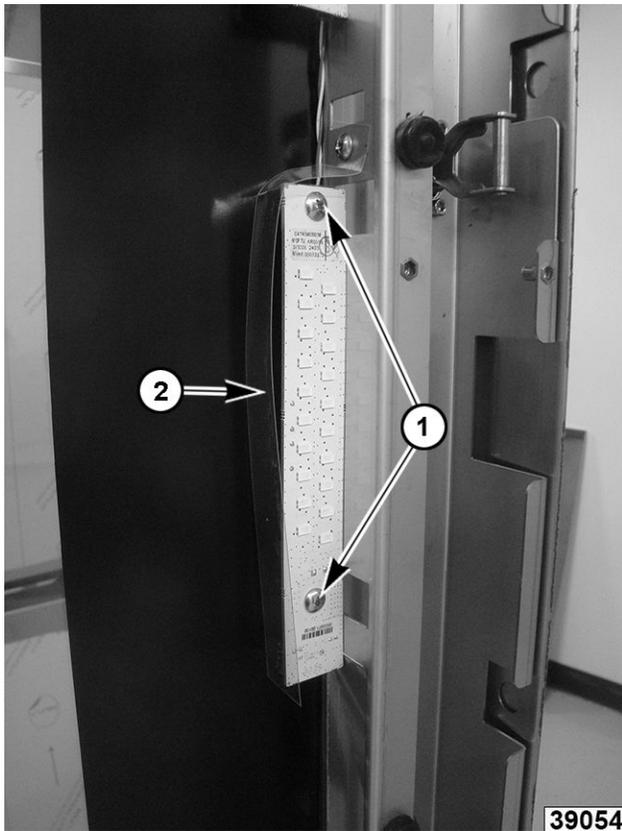

Fig. 39
2. Remove light mounting screws (1, Fig. 39).
NOTE: Mylar (2, Fig. 39) should be tucked under door panel to protect LED lighting when installing.